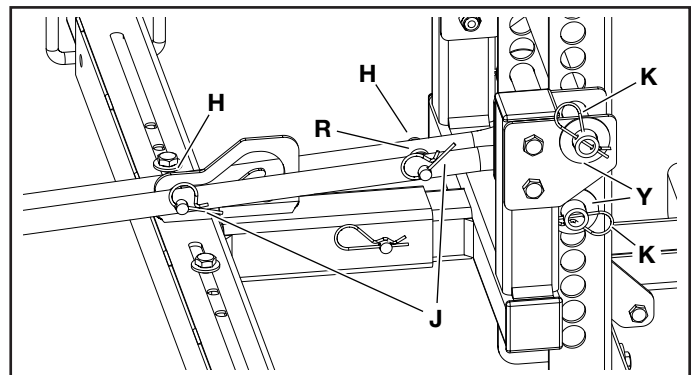

FIGURE 15
2. Remove the hair cotter pins (K) and washers (Y) securing the push tubes and pivot tube to the bulkhead. Retain for reassembly.
3. Remove the hair cotter pins (J), clevis pins (H), and spacer (R) securing the push tubes together. Retain for reassembly.
6. Secure the pivot tube to the bulkhead using the removed washers (Y) and hair cotter pins (K). See Figure 15 below.
8. Secure the push tubes to the bulkhead using the removed washers (Y) and hair cotter pins (K). See Figure 15 below.
9. Reassemble the push tubes and secure with the removed spacer (R), clevis pins (H), and hair cotter pins (J). (See STEP 7 on page 8 for instructions.)